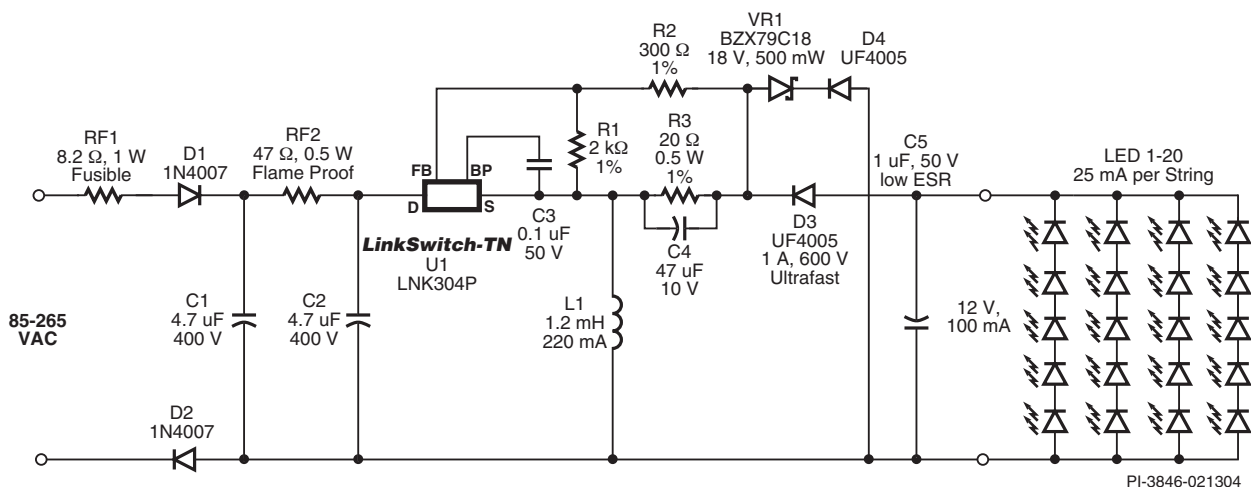

Figure 1. Schematic of a 1.25 W, 12.5 V, 100 mA constant current LED Driver, Using a Non-Isolated Buck-Boost Topology.
Using the Buck-Boost topology, the circuit shown in Figure 1 generates a non-isolated constant current (CC) output for driving LEDs. Typical uses include night-lights, neon sign replacements, emergency exit signs or any application utilizing LEDs for lighting.
- The circuit shown in Figure 1 has a total output current tolerance of  $\pm 12\%$  (including  $\Delta t$  of  $50^\circ\text{C}$ ).